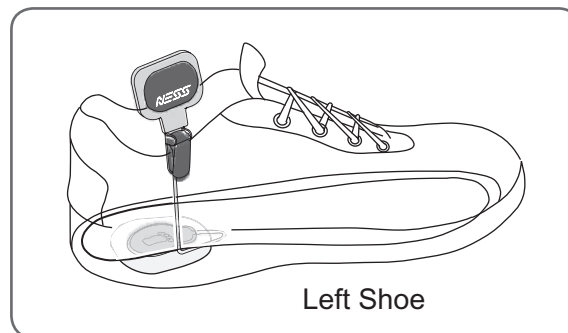

Figure 12: Insole covering the pressure sensor and wire.
6. Cover the pressure sensor with the insole. Tuck any excess wire under the insole. See Figure 12.